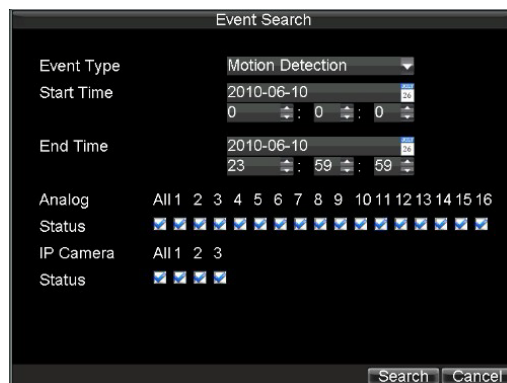

Figure 6. Video Event Search Menu
2. Set the search parameters by selecting event type to search, alarm input/ channel and the start/end time (as shown in Figure 6).